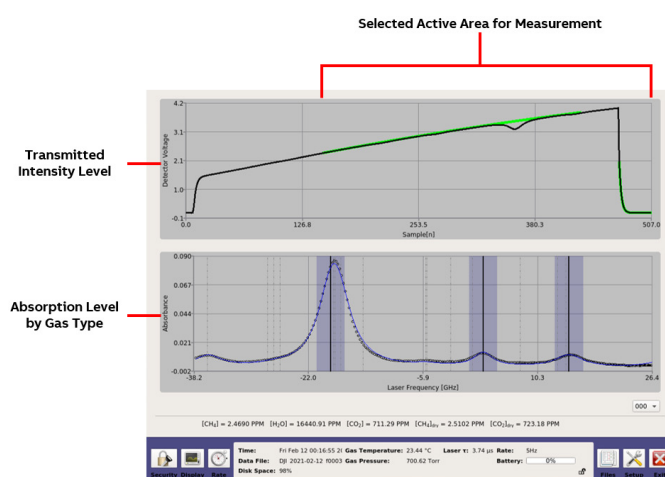

Figure 23 Spectrum Display Screen
- *Spectrum* (Figure 23)
The *Spectrum* screen displays peaks related to different gases. The measured concentrations are shown in ppm on the bottom of the *Spectrum* display. (Figure 23)